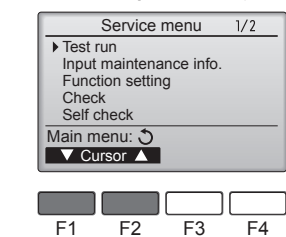

Fig. 6-3
- ③ Select "Test run" with the [F1] or [F2] button, and press the [RETURN] button. (Fig. 6-3)